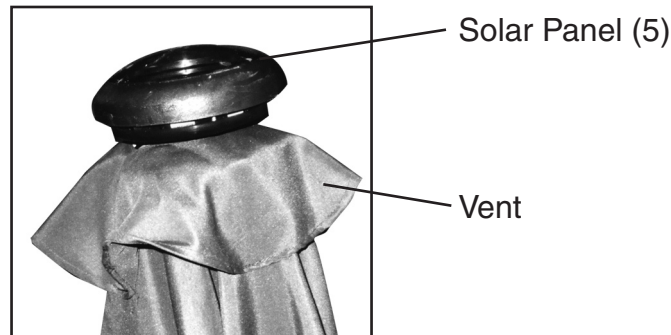

Figure 1
2. Place the umbrella stand (not included) on a flat, smooth surface. Choose a sunny location, allowing enough space for the height and the diameter of the Umbrella. The Solar Panel (5) at the top of the Umbrella (1) needs to be in a sunny location in order to charge. Allow at least 8 hours of sunlight for charging before first use. Placing the Umbrella under a tree or in a shady area will not allow the batteries to charge. See Figure 1.